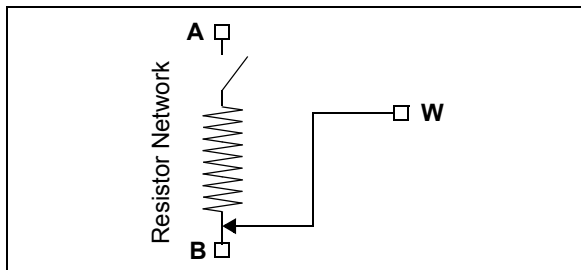

FIGURE 5-2: Hardware Shutdown Resistor Network Configuration.
- The P0W and P1W terminals are simultaneously connect to the P0B and P1B terminals, respectively (see Figure 5-2)